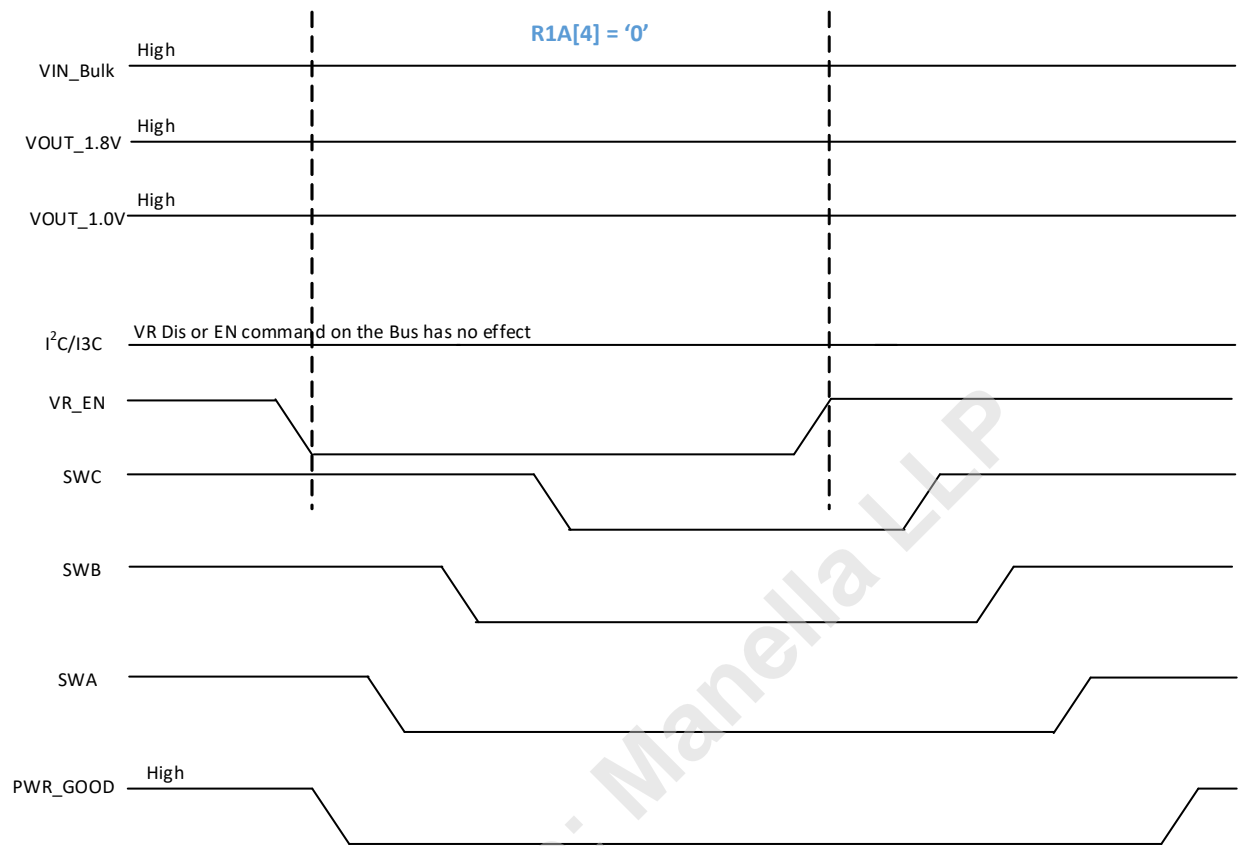

Figure 30 — Power Down with VR_EN Pin; R1A[4]=0; Secure Mode; PWR_GOOD Signal
1. The VR Disable command with VR_EN pin transitions to low. The PMIC asserts PWR_GOOD signal Low. The PMIC executes power off sequence config0 (Table 167, "Register 0x58") to power off sequence config2 (Table 169, "Register 0x5A") to preserve the appropriate voltage relationship as configured in the registers. The host can re-enable the PMIC's output regulators by VR_EN pin transition to High. The PMIC executes power on sequence config 0 to power on sequence config 2 registers and floats PWR_GOOD signal after tPMIC_PWR_GOOD_OUT timing parameter is satisfied. See Figure 30. The PMIC does not require power cycle.